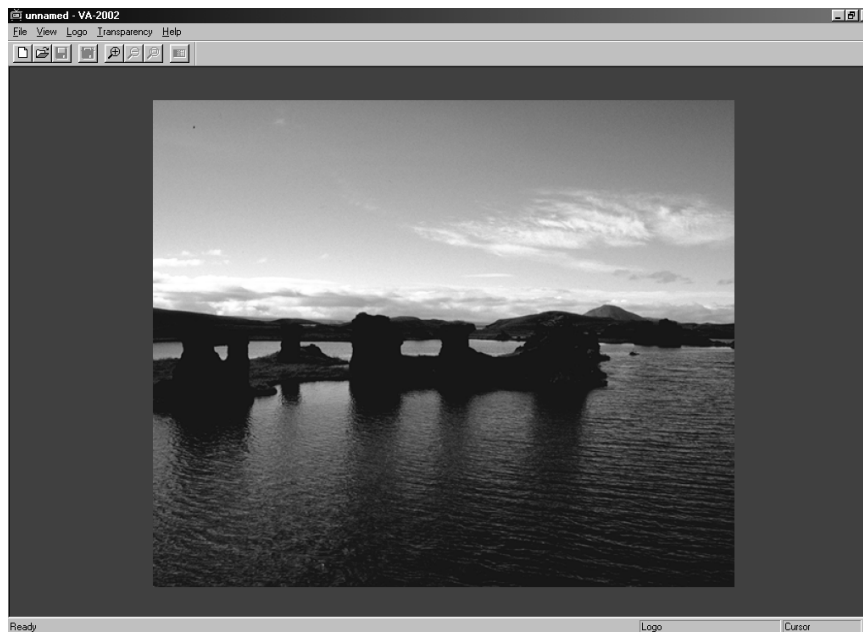
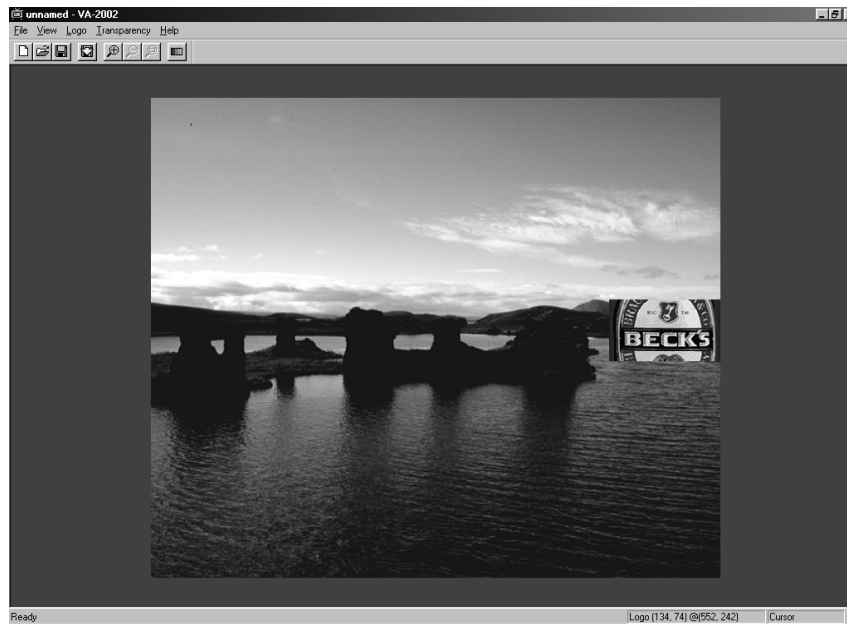
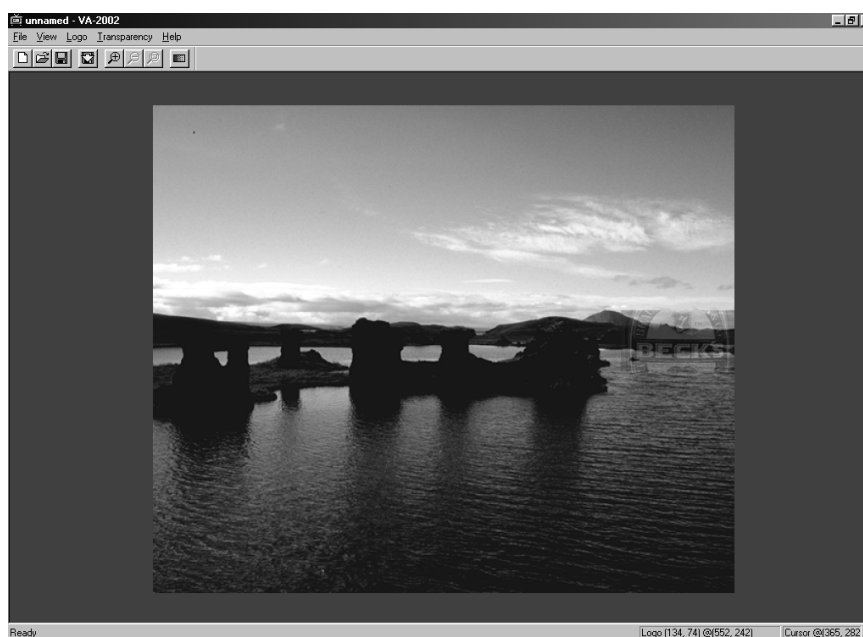

Figure 10: Unnamed – VA-2000 Window
Figure 13: Solid Logo on the Center Right Side of the Screen
Figure 15: Transparent Logo on the Center Right Side of the Screen
The Unnamed – VA-2000 window opens displaying a background screen³, as Figure 10 illustrates:
5. You can move the bitmap to a different location on the screen—by dragging it with the mouse—as the example in Figure 13 illustrates.
1 For example, if the Unnamed – VA-2000 window (illustrated in Figure 10, Figure 12 and Figure 13) was saved as a VA-2002 Project file named “design”, the words “design.lpj” would appear in the Title bar
Add transparency to an inserted logo to enable the viewer to see what is being broadcast behind that logo. Generating a solid logo over part of the screen will block out that part of the viewing area. For example, compare the solid logo illustrated in Figure 13 with the transparent logo illustrated in Figure 15:
¹ As the example in Figure 13 illustrates
² In the example in Figure 15, transparency is set at 80%